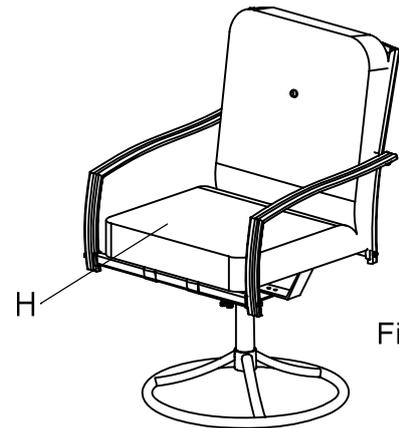

Fig. 7
- 7) Attach the cushion to the assembled chair with the velcro tab. See Fig. 7.